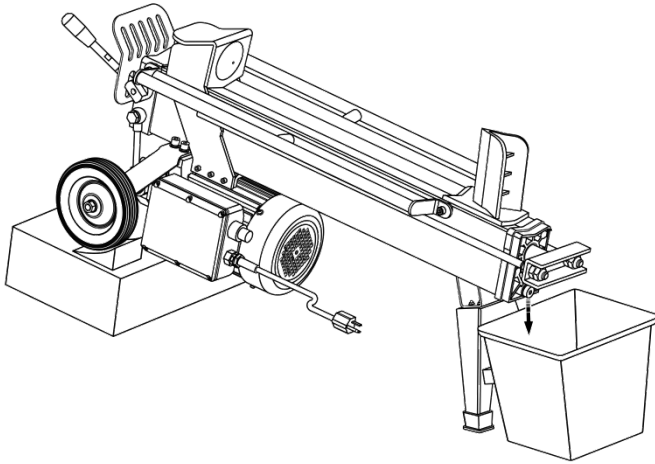

FIGURE 7.
- Remove the dipstick and check to see if the oil level is between the first and second groove on the dipstick (see *FIGURE 7*).
NOTE: The oil level should be between the two grooves around the bottom of the dipstick as shown in *FIGURE 7*.